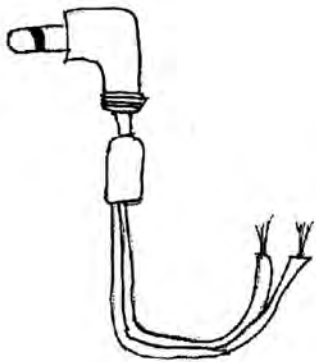

Fig. 3
4. Prepare wires: Cut your 12v adapter off at the transformer (black box). Splice a few inches into two individual wires at the cut-off end with an exacto-knife. With wire strippers/knife, strip an inch off each wire end and the battery leads (Figure 3).